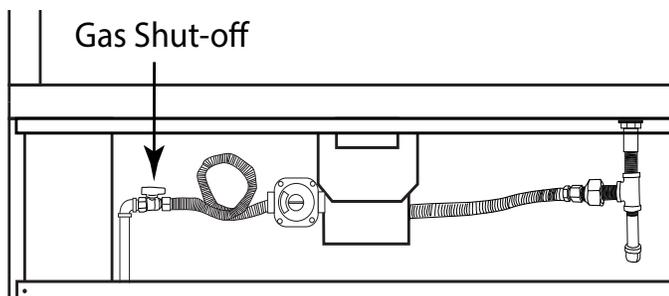

Figure 1 - Close up view of inlet gas connection with shutoff valve
**GAS LINE:** The gas line must have a predetermined location to enable it to be installed. *Figure 1* shows one example of an inlet gas line with a gas shut off at the fireplace. This allows a technician to shut the inlet gas supply OFF and remove the burner for servicing. **It is imperative that the flex line from the gas shutoff be long enough to lift out burner pan for service.** Ensure you follow the local and state gas codes per your installation.
3. The primary gas shutoff (supplied) will require a 1/2" male flared fitting to enable connection of the stainless steel flex gas line supplied with the fireplace (*See Figure 1, Page 5*).
NOTE: Preparation for the LED lighting and the inlet gas line must be planned before the fireplace is installed. See **Page 5, Figure 1** for inlet gasline and **Page 15** for LED lighting.